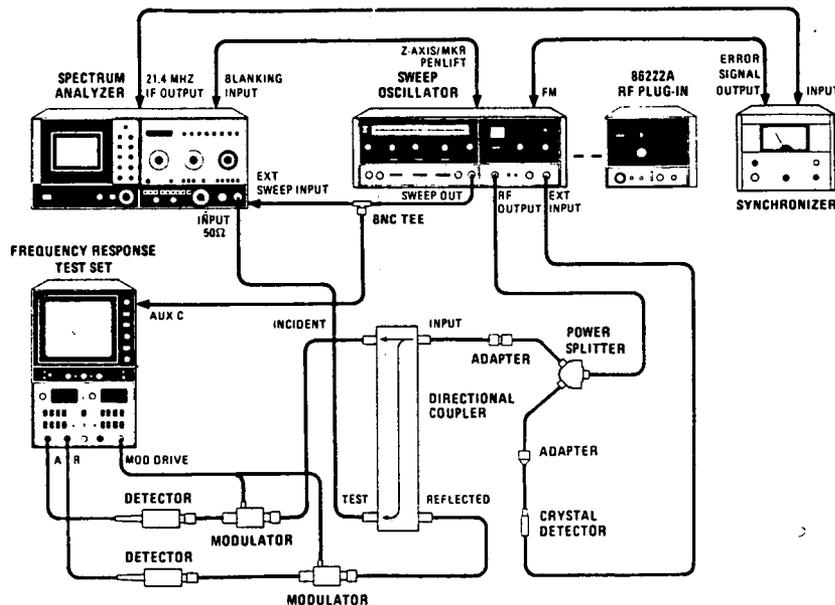

Figure 4-30. Input Impedance Test for Preselected Bands
10. Remove .01 to 2.4 GHz RF plug-in from sweep oscillator mainframe and replace with 2 to 22 GHz RF plug-in. Select band 4 (2.0-22 GHz on HP 8620C Sweep Oscillator. Connect equipment as shown in Figure 4-30 with 777D Opt. H18 coupler setup.